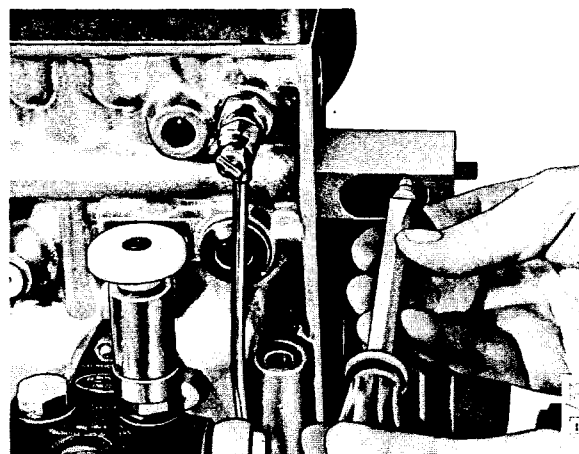

Fig.3
3. Screw the slot screw in the spacer pin bushing, fig. 3.